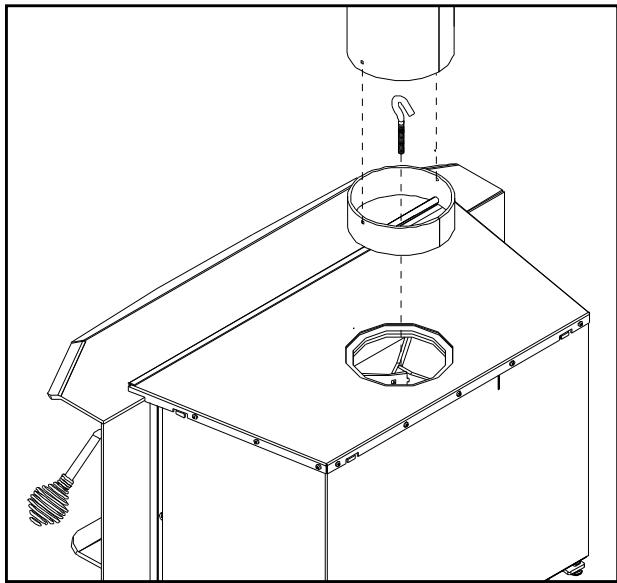
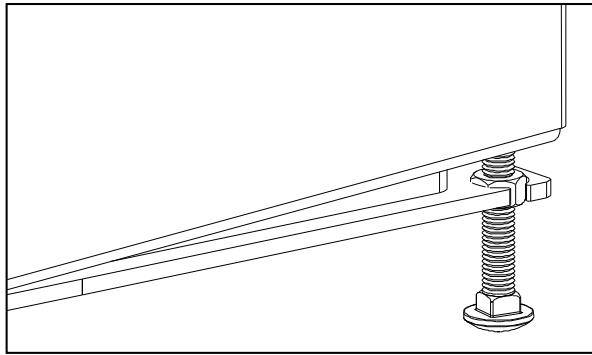

Figure 33: Attaching removable flue.
Figure 34: Leveling leg.
- Using the hook/bolt, grab the flue collar by the rod through the center and pull it into place (see Figure 33).
- Re-install ceramic baffles and the first two (2) front secondary air tube (see CERAMIC BAFFLE INSTALLATION).
3. There are two (2) leveling legs (shown in Figure 34), one on each side, at the back of the unit. Adjust the legs using a $\frac{9}{16}$ " wrench to ensure the unit is stable.